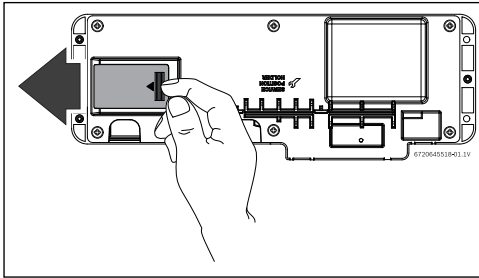

Fig. 2 Control unit rear
- ▶ Remove rear hatch from control unit to expose circuit board electrical connections. (Fig. 2, pos. 3).